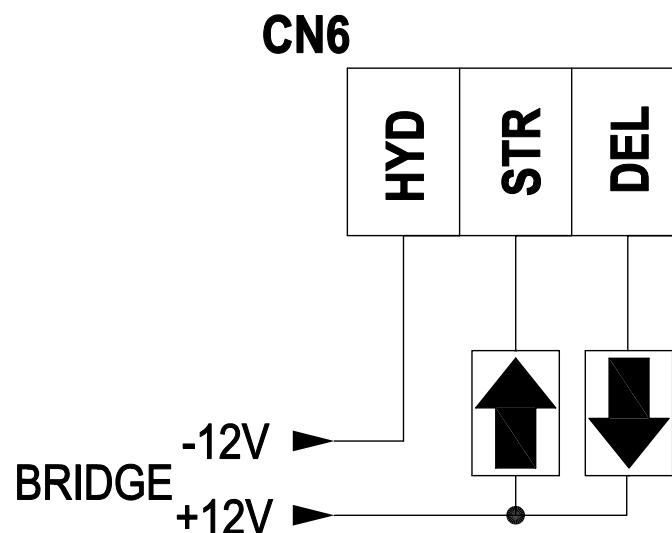

Figure 7.0 - Arrow Signals Connections
The terminals of the Arrows (up and down) are connected as illustrated in Figure 7.0.
- Figure 7.0 illustrates the installation and wiring of the Arrow Signals in case of not applying the hydraulic functionality.